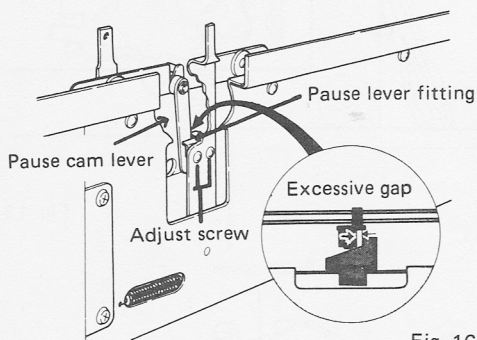

Fig. 16
4. If more than the specified value (1.5mm), loosen the adjust screw and move the metal fitting to adjust the pause cam lever gap (Fig. 16).